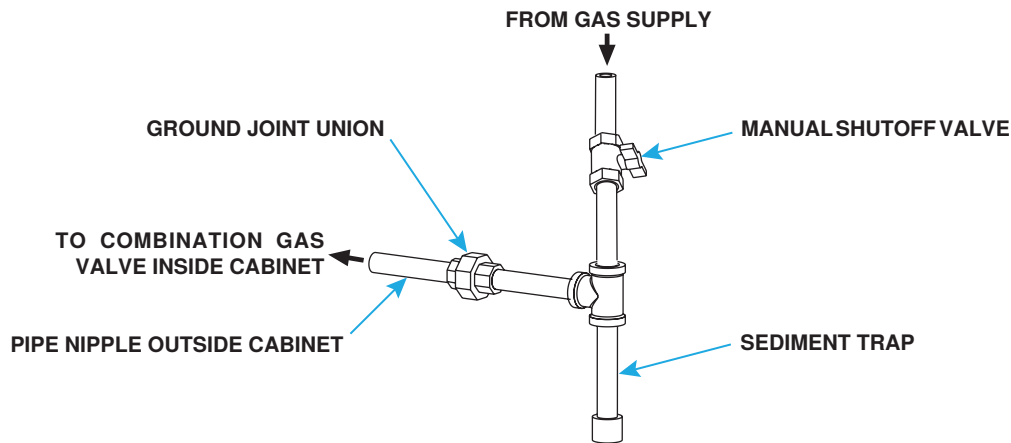

Figure 9. Gas Connections
- Install a ground joint union and manual shutoff valve upstream of the unit control system, as shown in Figure 9.
- The 1/8-inch plugged tapping in the manual shutoff valve in Figure 9 provides connection for a supply line pressure test gauge.
- The *National Fuel Gas Code* requires the installation of a trap with a minimum 3-inch drip leg (see Figure 9). Local codes may require a drip leg longer than 3 inches (typically 6 inches). To permit burner removal, this drip leg must extend beyond the edge of the heater.
- The gas connection is made at the pipe nipple that extends outside the cabinet, as shown in Figure 9. Gas connection sizes are listed in Table 9.